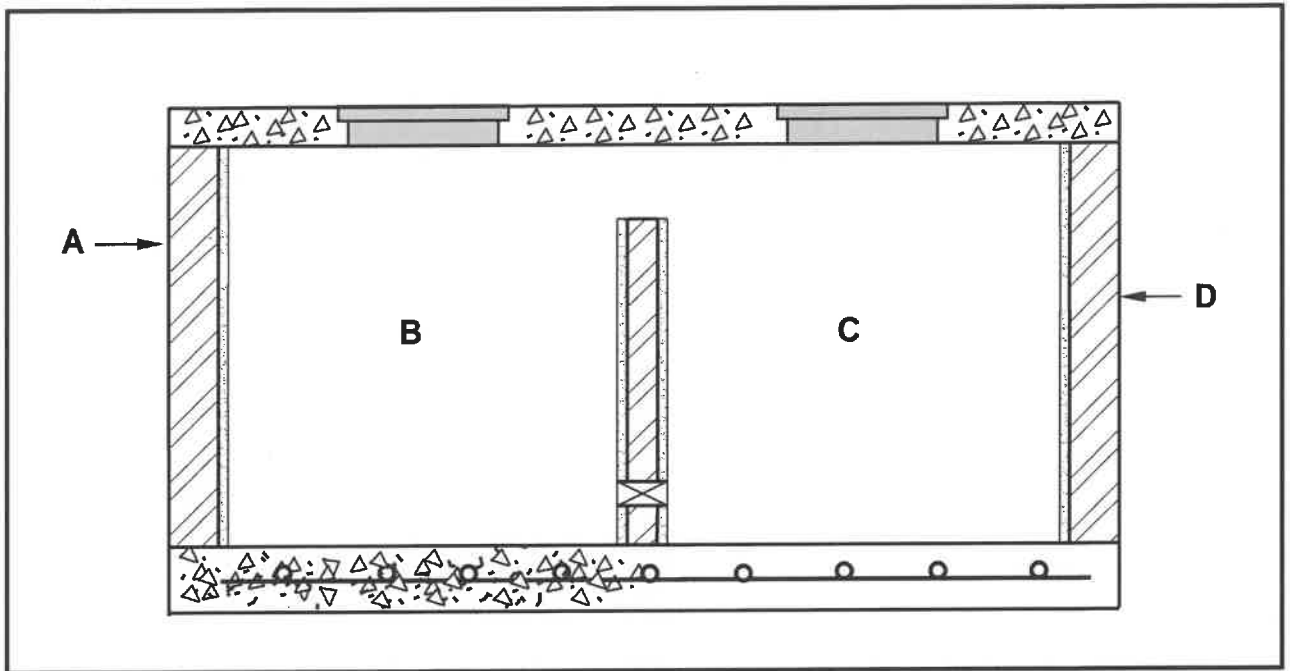

FIGURE 6.7
6.7 FIGURE 6.7 below shows a sectional view of a septic tank.